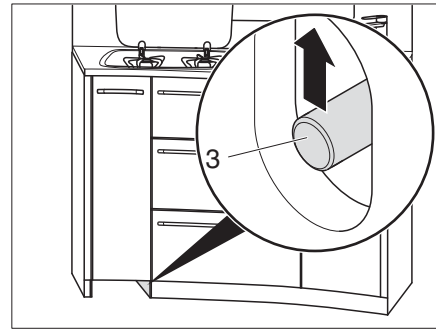

Fig. 115 Unlocking kitchen drawers
- Slide the push rod (Fig. 115,3) upwards.